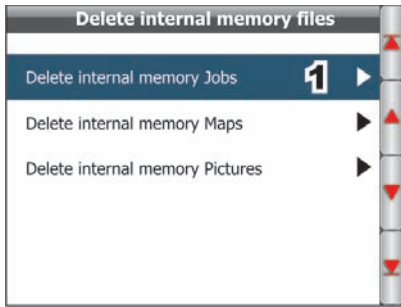

Fig. 150
- 1 Select item **Delete internal memory Jobs** (Fig. 150) and press **OK**;